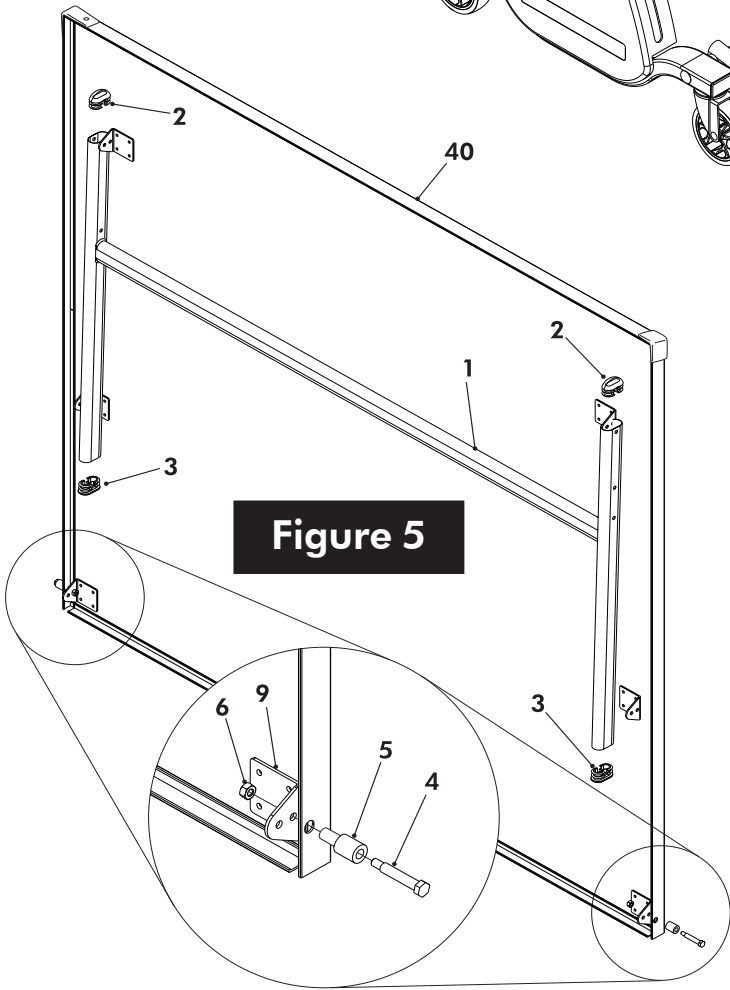

Figure 5
8. Insert Round Top Tube Plugs (#2) into top of Leg (#1) and Flat Tube Plugs into bottom of Leg (#3) on Top (#40). See Figure 5.
9. Insert shoulder Bolt (#4) through Roller Bushing (#5), side apron and bottom hole in Mounting Bracket (#9) as shown in Figure 5, and secure with locknut (#6). **Tighten bolts tight.** Repeat for other side of table.